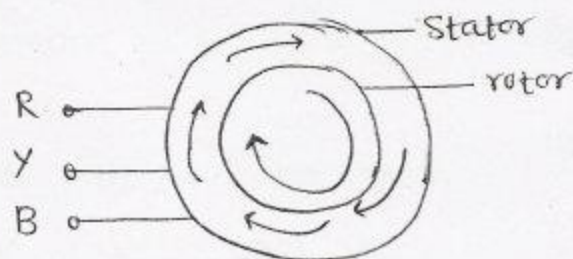

Figure 1
- (1) Slip ring or wound rotor motor
- (2) Squirrel Cage rotor motor
- The 3 ϕ Stator winding of IM is connected to the 3 ϕ ac supply as shown in figure 1.
- So the rotor current will flow in such a direction that the rotor will experience a force that accelerates it in the same direction as that of rotating magnetic field as shown in figure 1.
- When the IM is loaded mechanically, its speed (N) decreases to produce the required amount of torque.
(3) The reduction in the motor speed (N) will stop as the torque produced by the motor (T) is exactly equal to the load torque (T_L). The percentage difference b/w synchronous speed (N_s) and actual speed (N_r) is known as Slip.